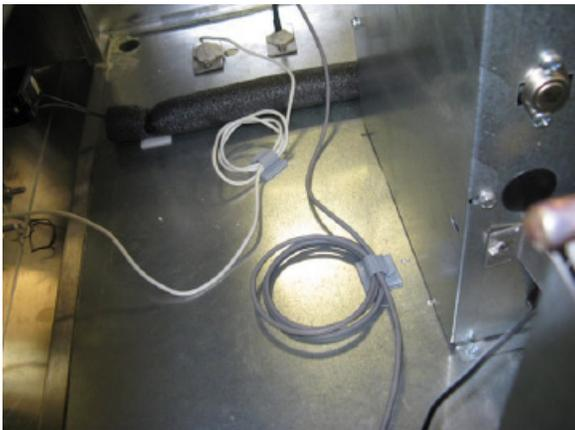

Figure 4. Securing excess wire
4. Secure the excess wire using a cable clamp as shown in **Figure 4**.